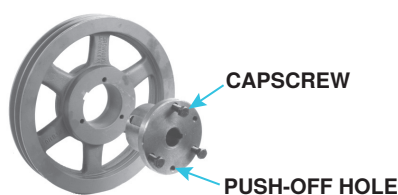

Figure 23. Split Taper Bushing
- (1) Note that there are three capscrews in bushing and two holes without screws called push-off holes (see Figure 23). Remove three capscrews.
- (2) Insert two capscrews into two push-off holes and tighten evenly until pulley is loosened.
- (3) Pulley may now be removed from shaft.